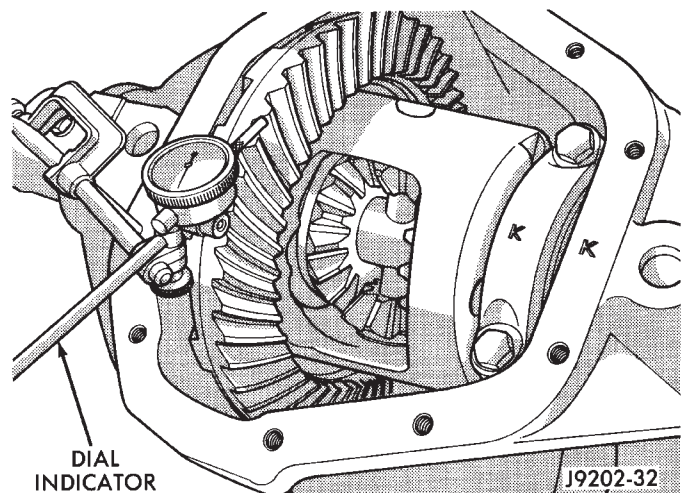

Fig. 40 Ring Gear Backlash Measurement
- (1) Rotate assembly several revolutions to seat bearings. Measure backlash at three equally spaced locations around the perimeter of the ring gear with a dial indicator (Fig. 40).